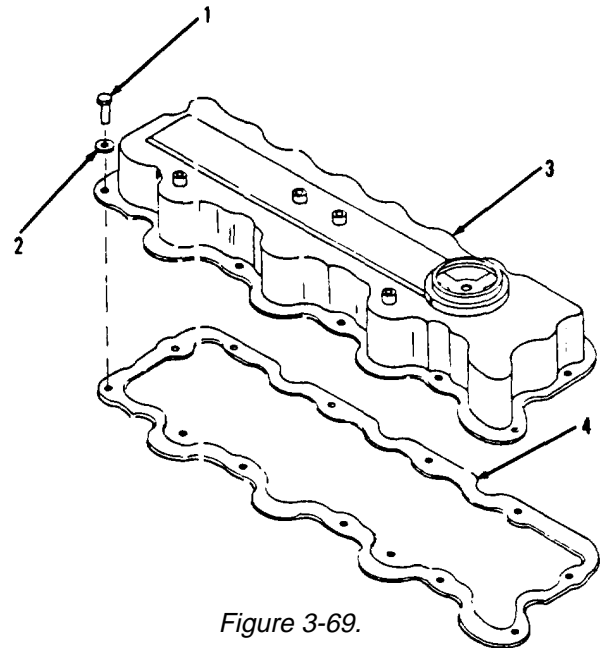

Figure 3-69.
1. Remove 11 bolts (1) and lock-washers (2, Figure 3-69) from top of engine.
2. Separate cover (3) and gasket (4) from cylinder head. Do not pry on lip of cover (3). Discard gasket (4). Remove all gasket material from mounting surfaces.
1. Position new gasket (4) and cover (3, Figure 3-69) on cylinder head. Apply gasket cement to lip of cover (3), where gasket (4) makes contact. Install gasket (4).
2. Install 11 lockwashers (2) and bolts (1). Tighten bolts (1) to 10 ft-lb torque.